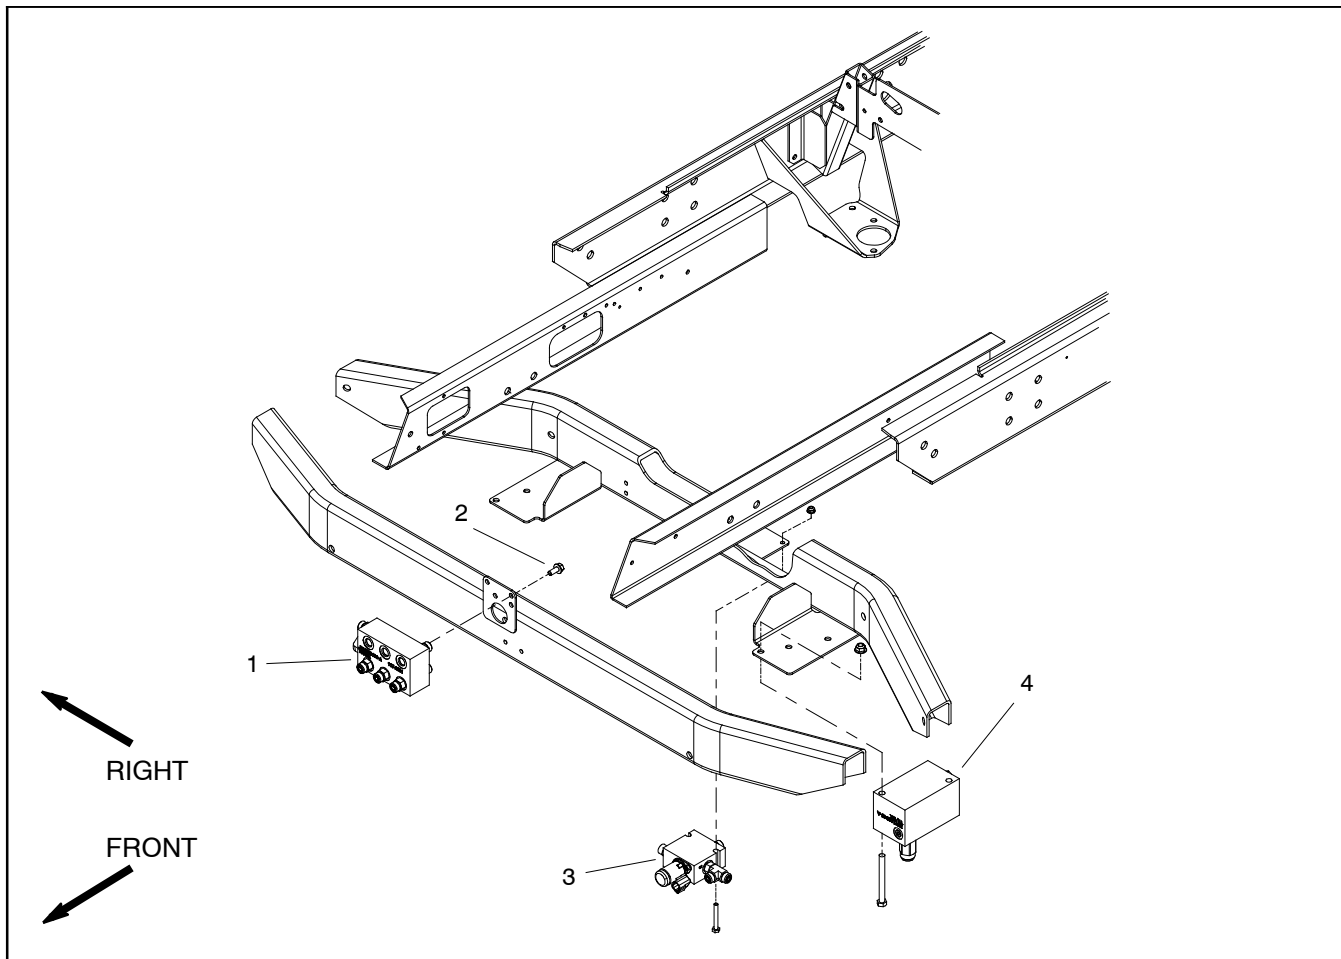

Figure 116
## Removal (Fig. 116)
**NOTE:** Upper three (3) hydraulic hoses on the front of the junction manifold thread into manifold ports. Loosen or remove opposite end of these hoses at lift cylinder fittings to allow hose removal from the manifold.
5. Remove hydraulic manifold from the frame using Figure 116 as guide.
## Installation (Fig. 116)
2. Install hydraulic manifold to the frame using Figure 116 as guide.